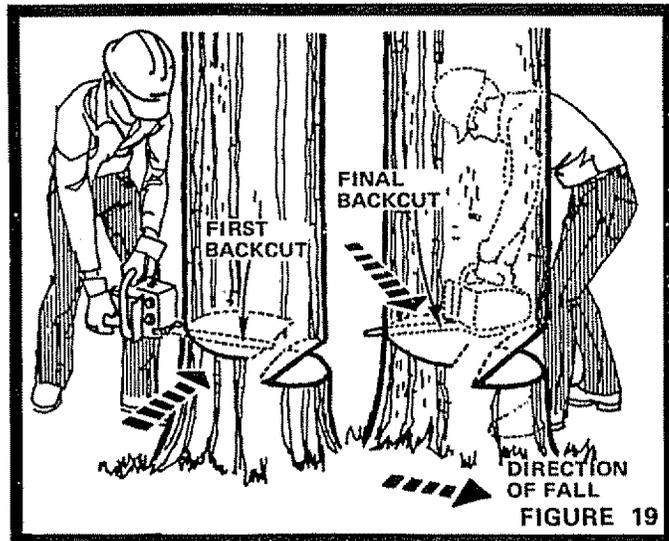

FIGURE 19
- For trees larger than bar length make two felling cuts pivoting bar nose in last, in on one side, then pivoting in from the other to complete the cut (Fig. 19).